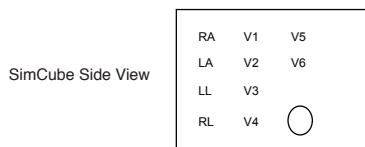

Fig. 3
9. For ECG and Respiration testing, connect the ECG cable from the monitor under test to the SimCube simulator. Snap locations for 3, 5 or 12 lead simulations are indicated on the side of the SimCube simulator and shown in Fig. 3. When using large snap heads or alligator clips, it may be necessary to use the ECG Extender Module, which is available from Pronk Technologies Inc.